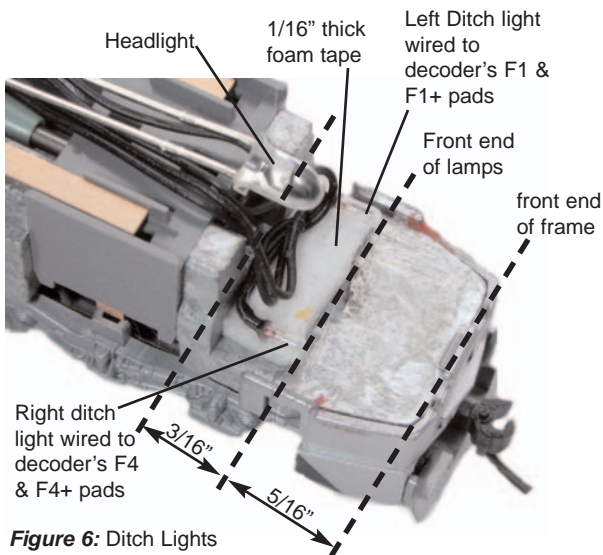

Figure 6: Ditch Lights
2. Install two incandescent 1.5V/15mA lamps (or LEDs) as shown in **Figures 5 & 6**. We strongly recommend the incandescent lamps for realism. The leads from the lamps/LEDs are soldered to F1/F1+ pads on the decoder (**Figure 6**) for the left ditch light and F4/F4+ pads for the right ditch light.